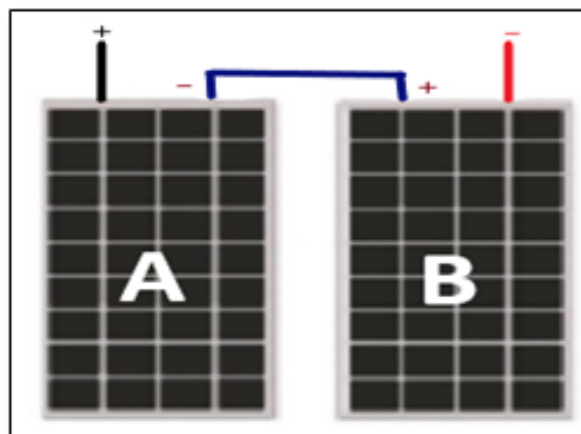

Figure 1.4 : Series connection of solar cell
2. Attach the wire or two electrical leads with an alligator clip to a solar cell as Figure 1.4.